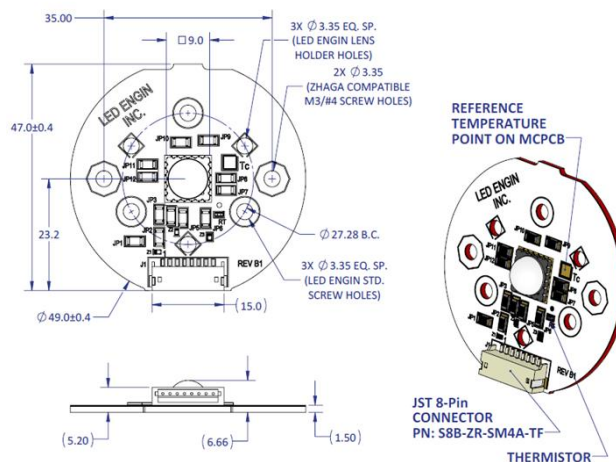

Figure 16: Mounting screw holes in LuxiTune MCPCB
- LuxiTune MCPCB T_c point is located on the MCPCB. See Figure 16 for more information on the location of the T_c point.